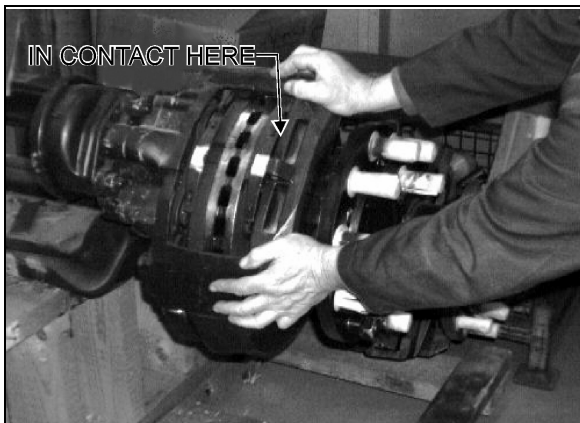

Figure 7
10. Push caliper assy inward and make sure that outboard brake pad is in contact with disc on R.H. side of pad (see Fig. 7).